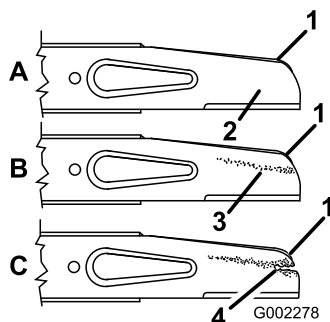

Figure 28
2. Remove the blade nuts, the accelerator, and the blade (Figure 28).